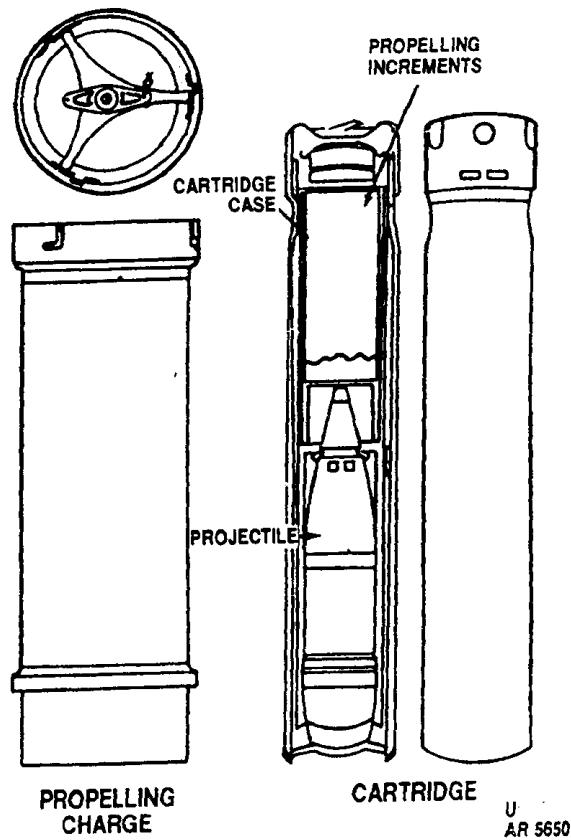

Figure 3-4. Typical Metal Containers.
3.3.6 Metal Containers (fig. 3-4).